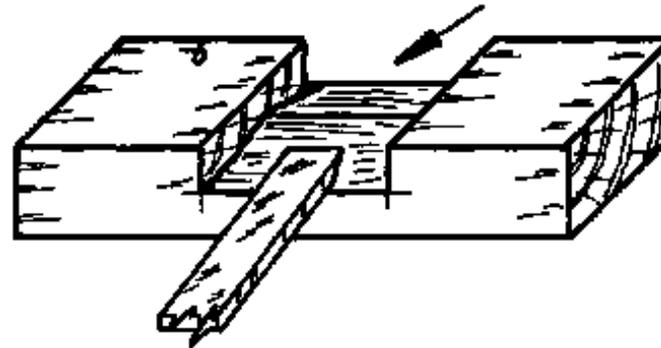

**Fig. 6****Step 4. Cutting the socket**
- Saw the shoulder of the pin, keeping on the waste side of the line (Fig. 6).